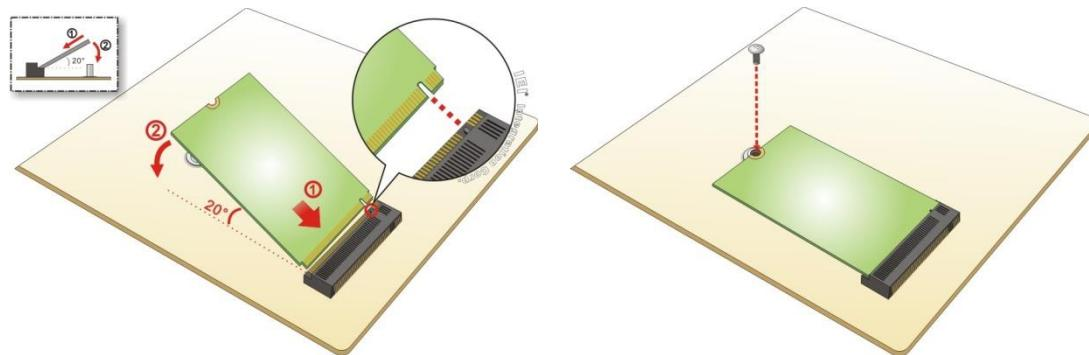

Figure 3-7: M.2 SSD Installation
Step 3: Line up the notch on the M.2 SSD with the notch on the connector. Slide the M.2 SSD into the socket at an angle of about 20° (**Figure 3-7**).
Step 4: Secure the M.2 SSD with the retention screw. Push the other end of the M.2 SSD down and secure the card with the previously removed retention screw (**Figure 3-7**).